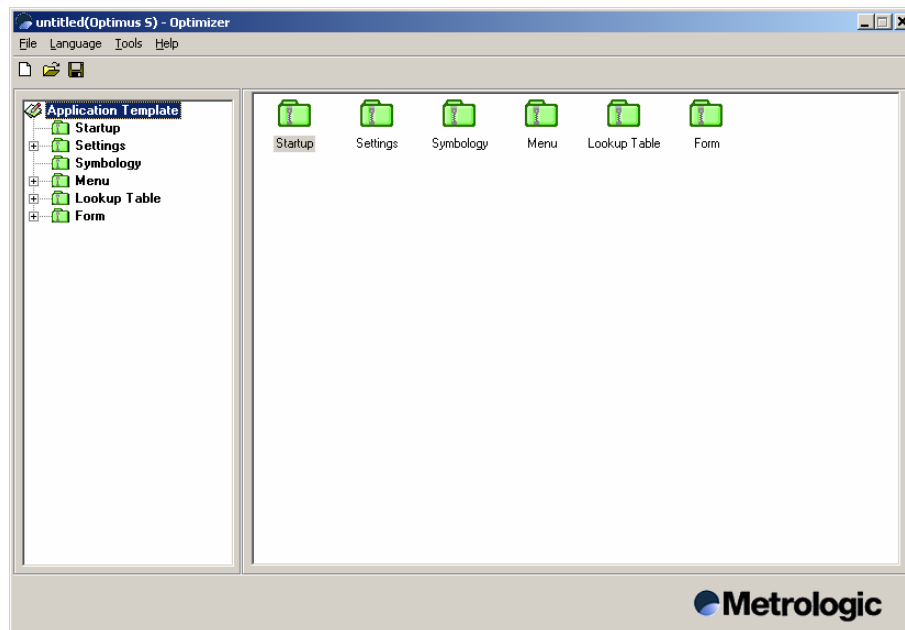

Figure 1: Optimizer at Startup
2. Click on “Programs”, then “Optimus Software”, and finally “Optimizer”. The Optimizer program should open up (see **Figure 1**).